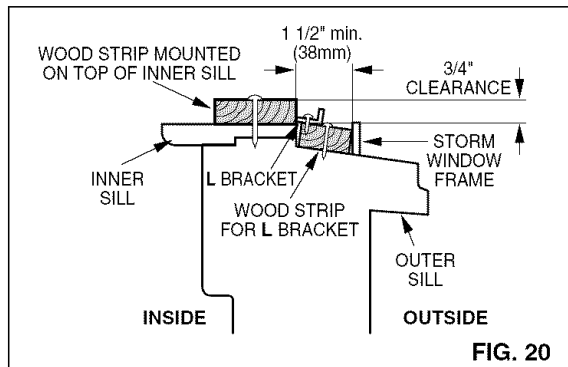

FIG. 20
- If storm window presents interference, fasten a 2" wide wood strip to the inner window sill across the full width of the sill. The wood strip should be thick enough to raise the height of the window sill so that the unit can be installed without interference from the storm window frame. See FIG. 20.
- Install a second wood strip (approximately 6" long by 1 1/2" wide and same thickness as first strip) in the center of the outer sill flush against the back of the inner sill. Screw the L brackets into this strip. To support the lower guide, screw an "L" bracket (not supplied) into this strip as shown in FIG. 20.